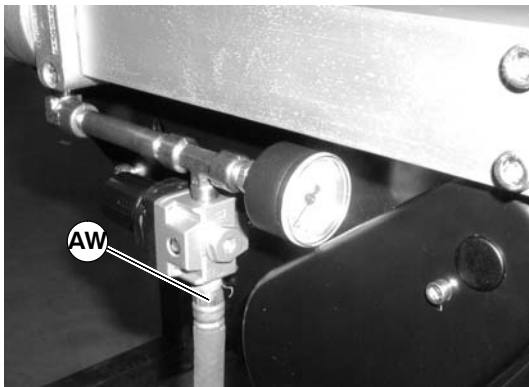

Figure 22
1. Remove air supply and remove hose (AW of Figure 22) from center drive.